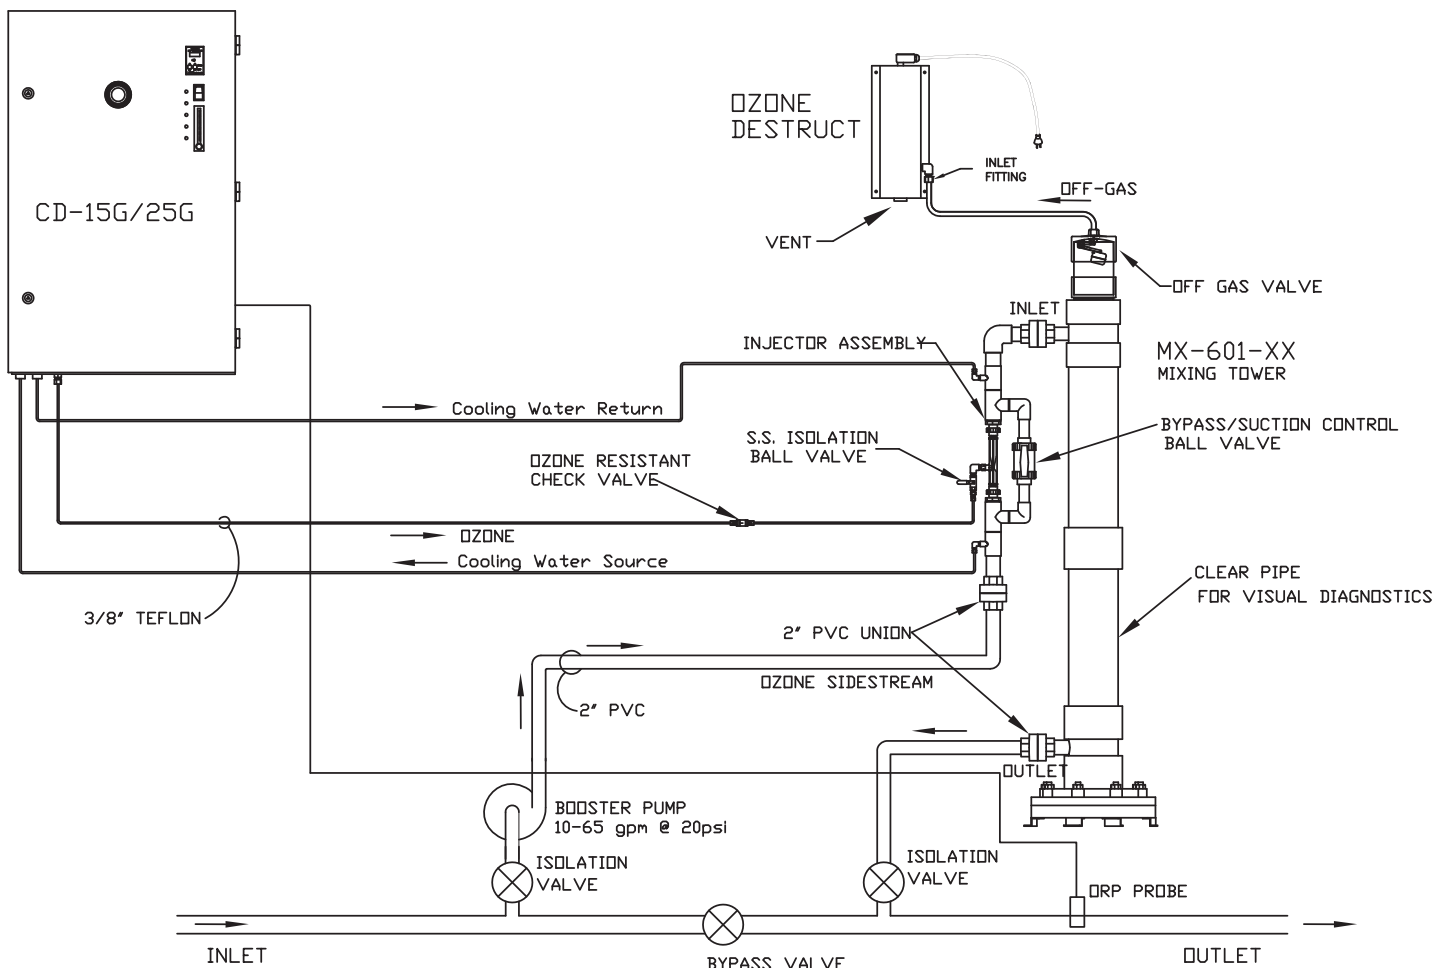

Figure 2: Plumbing Schematic
2. Connect opposite end of ozone tubing to injector suction port. (Suction port fitting: 3/8" stainless steel compression fitting.) *See figure 2.*
1/4" FPT connections are supplied on the generator. **See figure 2.** Be sure that the tubing is appropriately matched with the marked inlet and outlet ports. Carefully match and connect to water plumbing as shown in figure 2. Alternate method using connections at injector may be used.